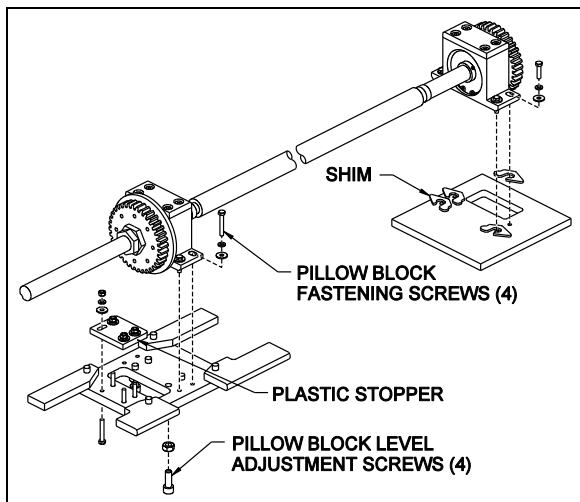
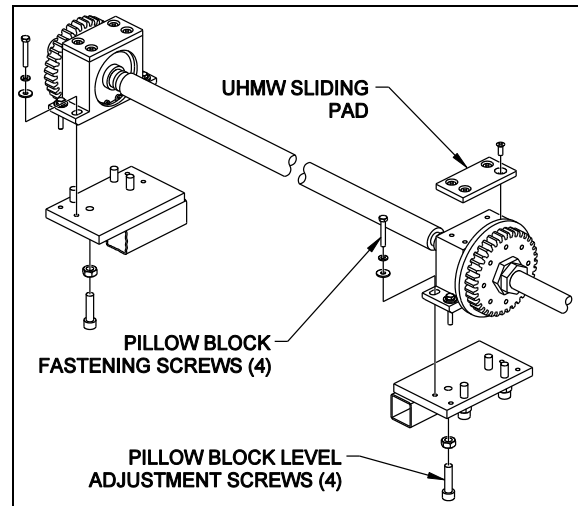

FIGURE 26 : FRONT SLIDE-OUT SLIDING PAD LEVELLING
FIGURE 27 : REAR SLIDE-OUT SLIDING PAD LEVELLING
There is a UHMW plastic stopper used to block any axial movement of the front slide-out lower shaft (figure 26). This stopper must be adjusted 1/32" away from the pinion.
3. Check and make sure that the UHMW sliding pad and the vehicle frame structure are parallel and within a distance of 22.2mm (7/8") (figure 50). If not, an adjustment is needed. To adjust the rear slide-out UHMW sliding pads and the front slide-out motor side UHMW sliding pad, use the pillow block adjustment screws located under the fixation plates (figure 26 and figure 27). To adjust the front slide-out UHMW sliding pad located
on the driver side, add or remove shims under the pillow block (figure 26).
4. Make sure both pillow blocks are at the same distance from the structure and tighten the pillow block fastening screws and the adjustment screw jam nut (figure 26 and figure 27).